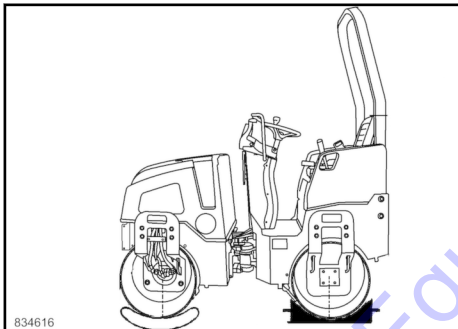

Fig. 102
1. Drive the drum of the machine onto an elastic base (rubber buffers) ↪ Fig. 102 and block the rear drum additionally with suitable chocks.